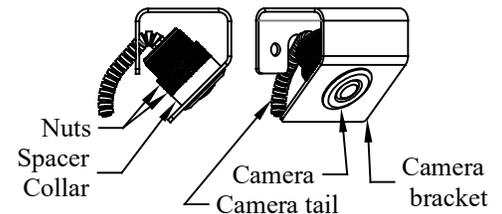

Figure 2: Flush mounted camera.
3. **Secure** the camera from the back using the spacer collar and both included nuts. (Figure 2)